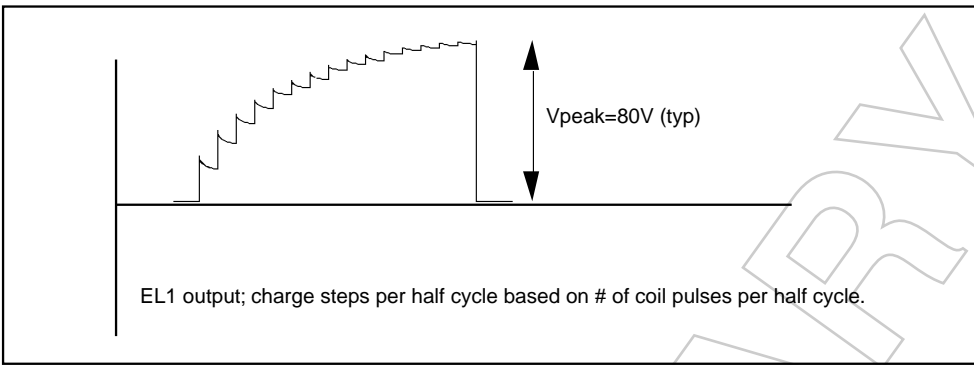
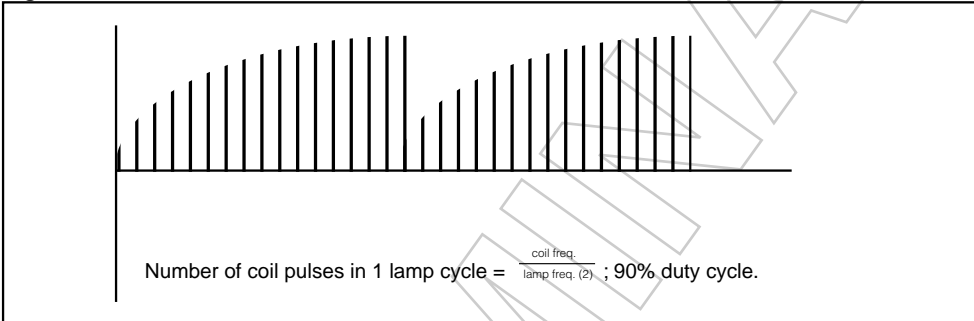

Figure 1.
Figure 2.
The F_{coil} signal controls a switch that connects the end of the coil at pin 3 to ground or to open circuit. The F_{coil} signal is a 90% duty cycle signal. During the time when the F_{coil} signal is high, the coil is connected from V_{battery} to ground and a charged magnetic field is created in the coil. During the low part of F_{coil} , the ground connection is switched open, the field collapses and the energy in the inductor is forced to flow toward the high voltage H-bridge switches. F_{coil} will send as many charge pulses as possible in 1 Lamp Cycle {Number of Coil pulses in 1 lamp cycle = $\frac{\text{Coil Freq}}{\text{Lamp Freq (2)}}$ } (see *figure 2 page 6*). Each pulse increases the voltage drop across the lamp in discrete steps. As the voltage potential approaches its maximum, the steps become smaller (see *figure 1 page 6*).